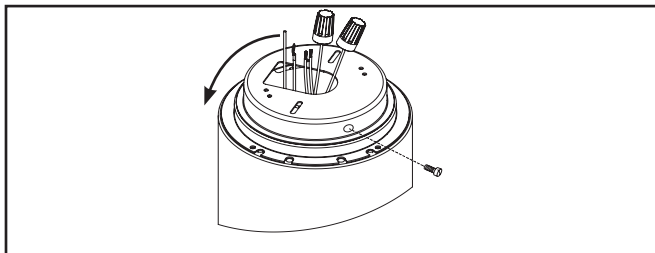

Figure 1.
2. Rotate the mounting plate in anticlockwise direction to separate from assembly and to remove from cylinder (Figure 1).